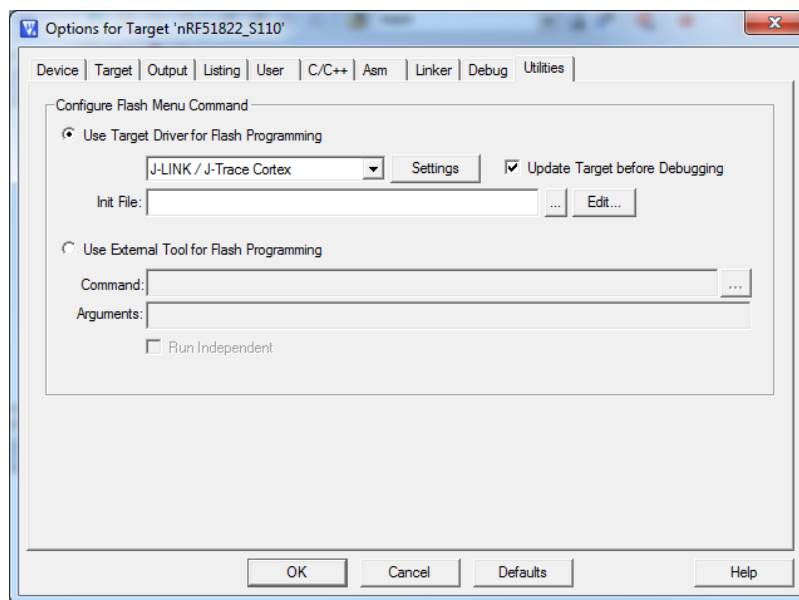

Figure 29 Debugger selection
9. Choose the available debugger from the list as shown in *Figure 29*.